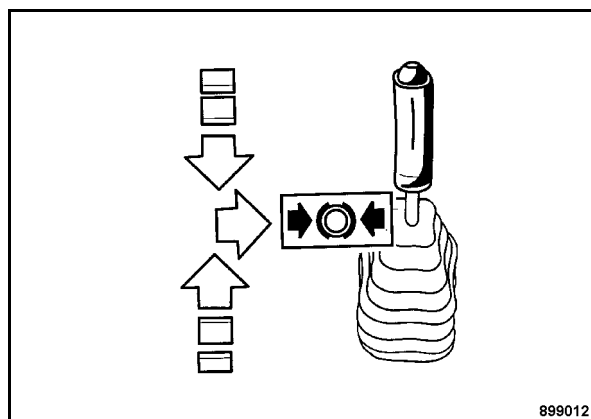

Fig. 46
- Push the travel lever (Fig. 46) to the right into parking brake position.